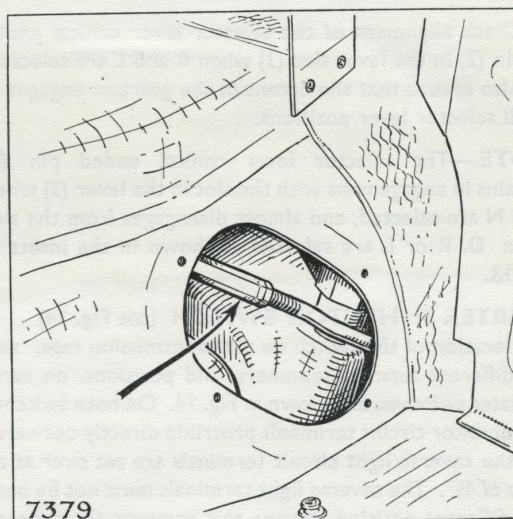
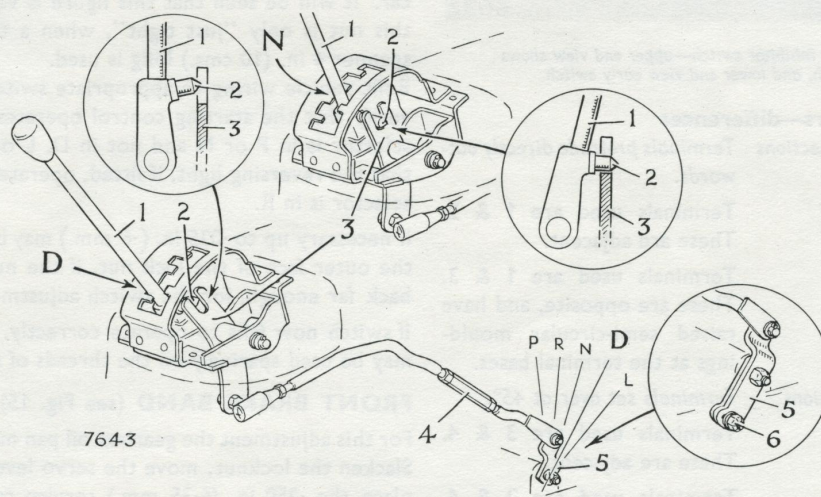

Fig. 12. Selector rod adjustment position
Fig. 13. Adjustment of floor mounted selector lever rod
The adjustment nuts are shown in Fig. 12 and these are reached after removing their cover plate on the right-hand side of the floor tunnel. Adjustment is made as follows. (See Fig. 13)
If the lever (5) has a nut (6) at its lower end, as shown in the bottom inset of Fig. 13, the nut (6) must be checked for tightness before making this adjustment.
1. Disconnect the adjustable rod (4) from the external lever (5) on the transmission and put the lever in the D position. To do this move the lever end; to which the rod (4) is connected, as far backwards as possible into the P position, and then forward three "clicks" into the D position.
2. Put the driver's selector lever (1) into the D position.
3. Adjust operating rod (4), so that when it is replaced on the GEARBOX LEVER (5), the centre of the conical ended pin (2) on the driver's selector lever (1) comes central in the slot of the lever (3) into which the pin engages, when the selector lever (1) is moved to the right (see Fig. 13). The adjustment (4) has a right- and left-hand thread.
4. Tighten the adjustment lock nuts and at the same time support the rod (4) so that it is clear of the gearbox rear brake band adjustment, and also kept in correct alignment with the gearbox lever (5). The rear lock nut is reached by moving the selector lever into the L position.
5. Check alignment of the selector lever conical ended pin (2) in the lever slot (3) when R and L are selected. Also ensure that the detent in the gearbox engages in all selector lever positions.
NOTE.—The selector lever conical ended pin (2) remains in engagement with the slot in the lever (3) when P or N are selected, and almost disengages from the slot when D, R or L are selected as shown in the insets of Fig. 13.